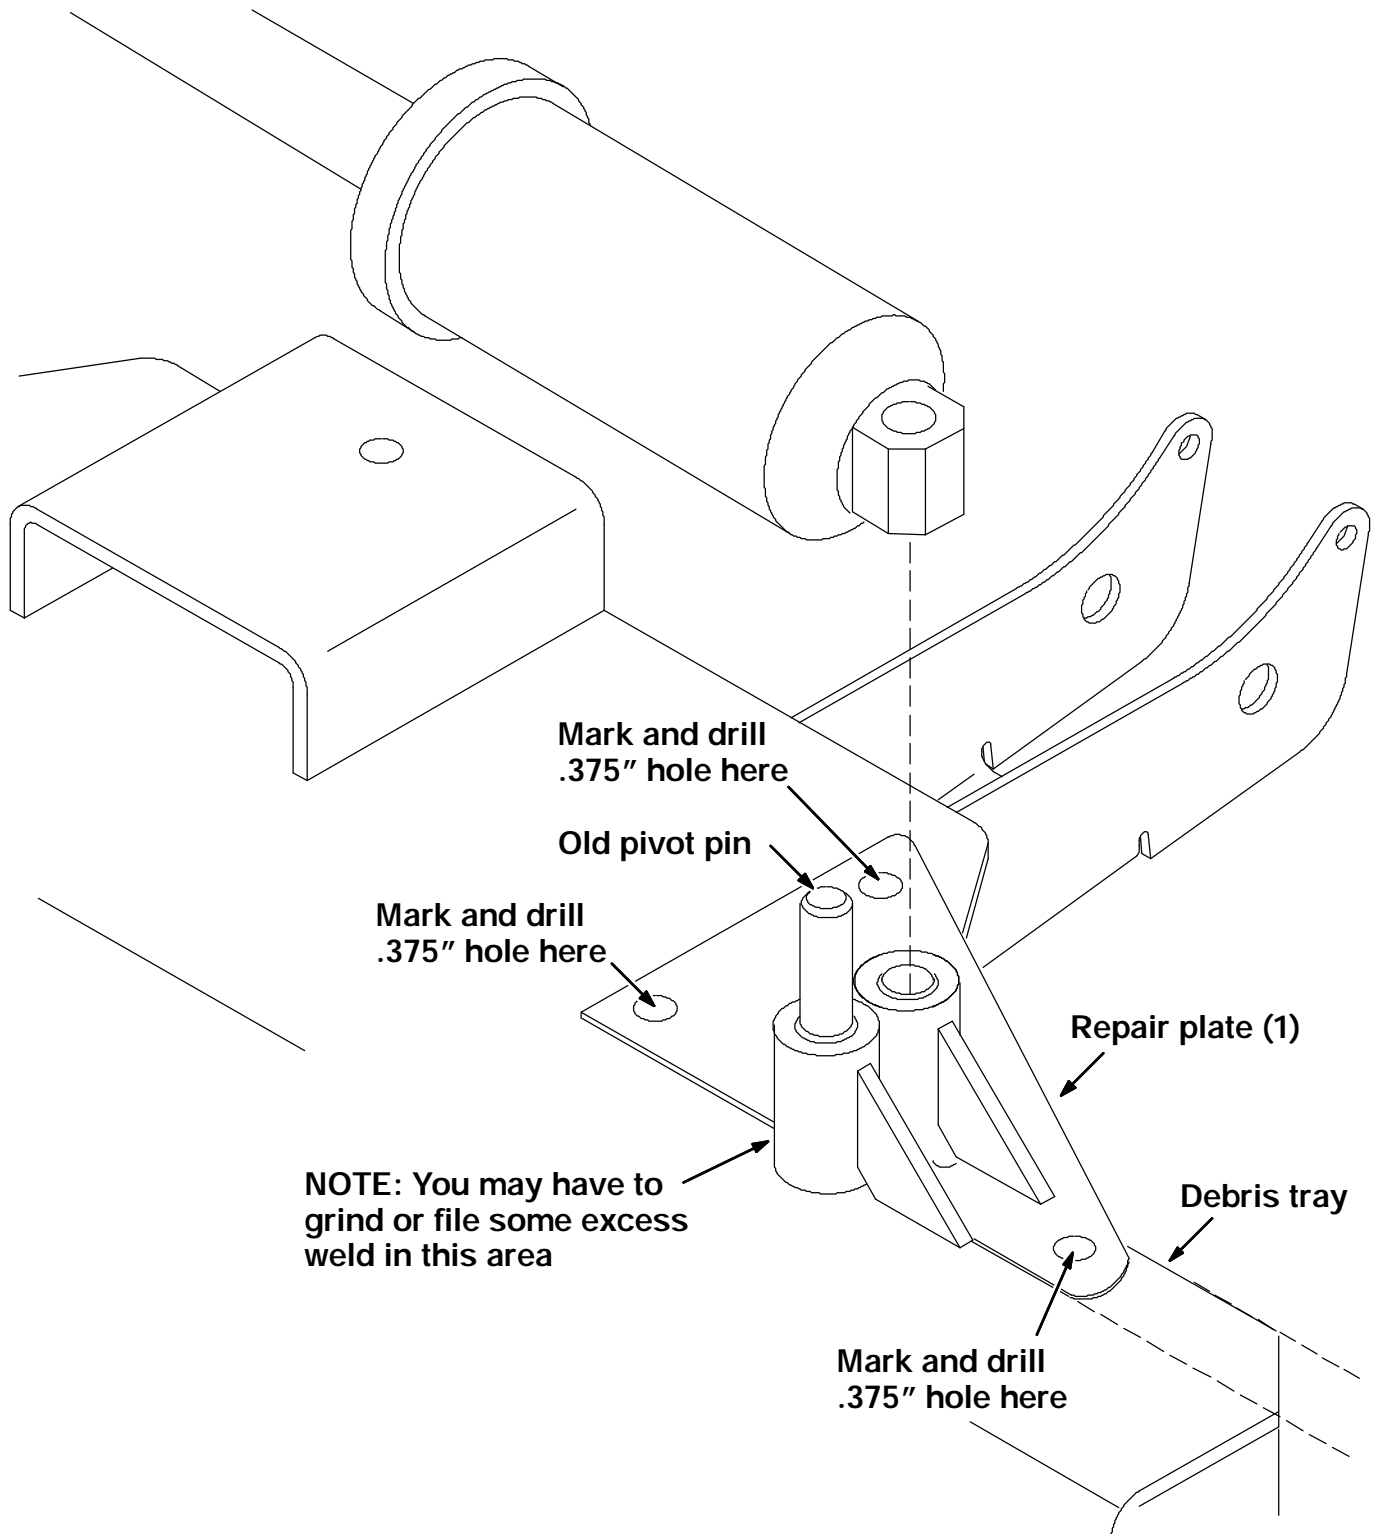

FIG. 2 - Weldment Installation
7. Lift the cylinder off the old pivot pin and position it out of the way of the debris tray. (Refer to FIG. 2 and 3)
1. Position the new plate weldment (1) on the debris tray up against the old pivot pin. Use the notch on the new plate weldment (1) to correctly align the new plate. The edge of the new plate should be parallel with the edge of the debris tray. (Refer to FIG. 2)
2. Mark the three holes in the new plate weldment (1). Remove the new plate and drill the three marked holes to .375 in. into the debris tray. (Refer to FIG. 2)
3. Place the new clevis pin (3) into the larger hole on the new plate weldment (1) so it sticks up.
4. Position the new plate weldment (1) and pin (3) assembly back on the debris tray. Line up the three holes. (Refer to FIG. 2)
5. Install the three hex screws (6) and nyloc nuts (5) in the plate and tighten to 18 - 24 Nm (15 - 20 ft). (Refer to FIG. 2)
6. Install the lift cylinder on the new clevis pin (3). Install the new cotter pin (4). (Refer to FIG. 2)